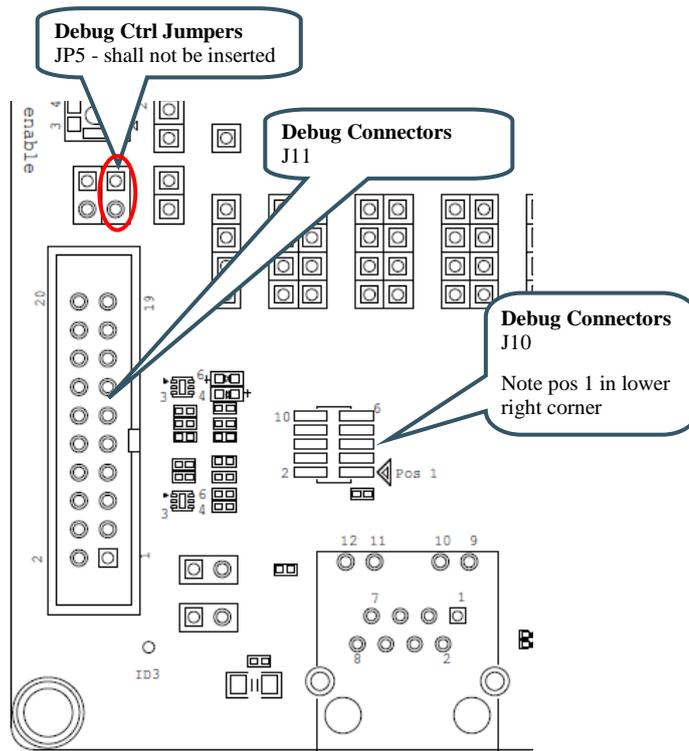

Figure 12 – Debug Interfaces
- J10 – this is a Cortex Debug connector. It is a 2x5 pos, 50 mil pitch connector without a shroud. Be careful when inserting the debug probe cable. Position 1 is in specifically marked on the PCB silkscreen. It is located in the lower right corner, see Figure 12 below. The connector supports both the SWD and JTAG interfaces.